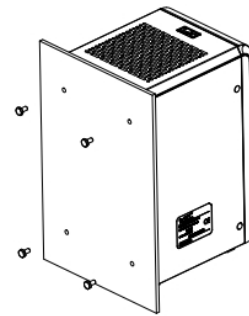

Figure 4.3 Screws Hole Mounting
2. Uninstallation (Figure 4.3): (1) Pull down the controller.
1. Installation (Figure 4.3):